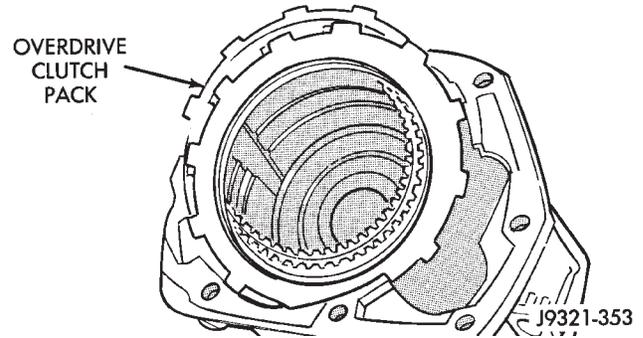

Fig. 214 Overdrive Clutch Pack Removal
(2) Remove overdrive clutch pack (Fig. 214).